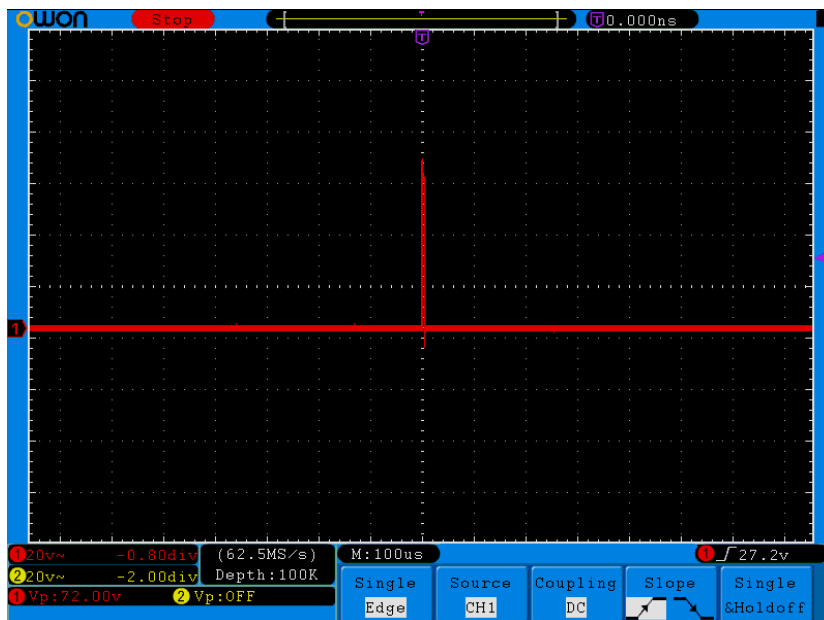

Fig.6-3 Capturing a Single Signal
- (6) Press the **Trigger Menu** button to display the Trigger menu.
- (7) Press the **H1** button to display the Trigger Type menu.
- (8) Turn the **M** knob to choose **Edge** as the mode.
- (9) Press the **H2** button to display the **Source** menu.
- (10) Press the **F1** button to choose **CH1** as the source.
- (11) Press the **H3** button to display the Coupling menu; press the F2 button to choose **DC** as the Coupling.
- (12) Press the **H4** button to choose  (rising) as the Slope.
- (13) Rotate the **TRIG LEVEL** knob and adjust the trigger level to the roughly 50% of the signal to be measured.
- (14) Check the Trigger State Indicator on the top of the screen, if it is not Ready, push down the **Run/Stop** button and start acquiring, wait for trigger to happen. If a signal reaches to the set trigger level, one sampling will be made and then displayed in the screen. By using this approach, a random pulse can be captured easily. For instance, if we want to find a burst burr of high amplitude, set the trigger level to a slightly higher value of the average signal level, press the **Run/Stop** button and wait a trigger. Once there is a burr occurring, the instrument will trigger automatically and record the waveform during the period around the trigger time. By turning the **HORIZONTAL POSITION** knob in the horizontal control area in the panel, you can change the horizontal triggering position to obtain the negative delay, making an easy observation of the waveform before the burr occurs (see **Fig.6-3**).